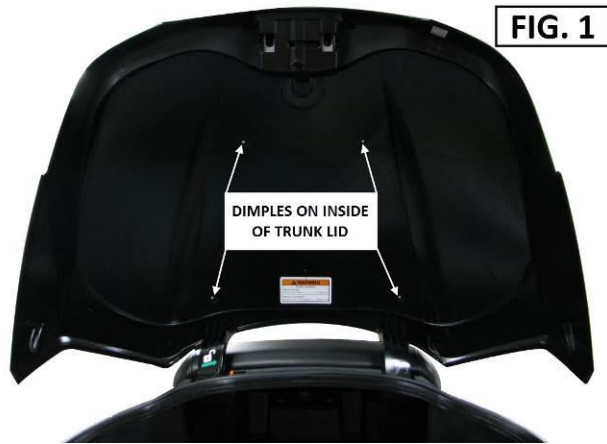

FIG. 1
1. OPEN THE TRUNK LID AND FIND THE DIMPLES MOLDED INTO THE UNDERSIDE OF THE TRUNK LID. SEE FIG. 1.